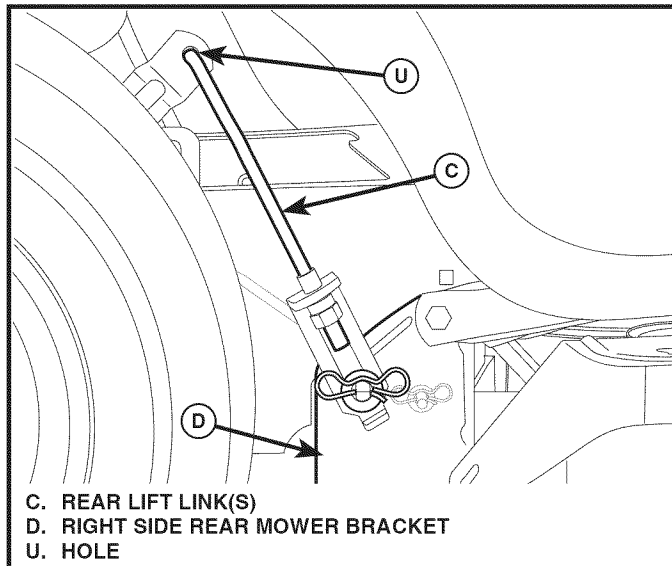

Fig. 37
## 7. ATTACH REAR LIFT LINKS (C) (See Fig. 37)
- Insert rod end of rear lift link (C) into hole (U) in tractor lift shaft suspension arm and pivot link down to mower.
- Lift rear corner of mower and position slot in link assembly over pin on rear mower bracket (D) and secure with large washer and large retainer spring.